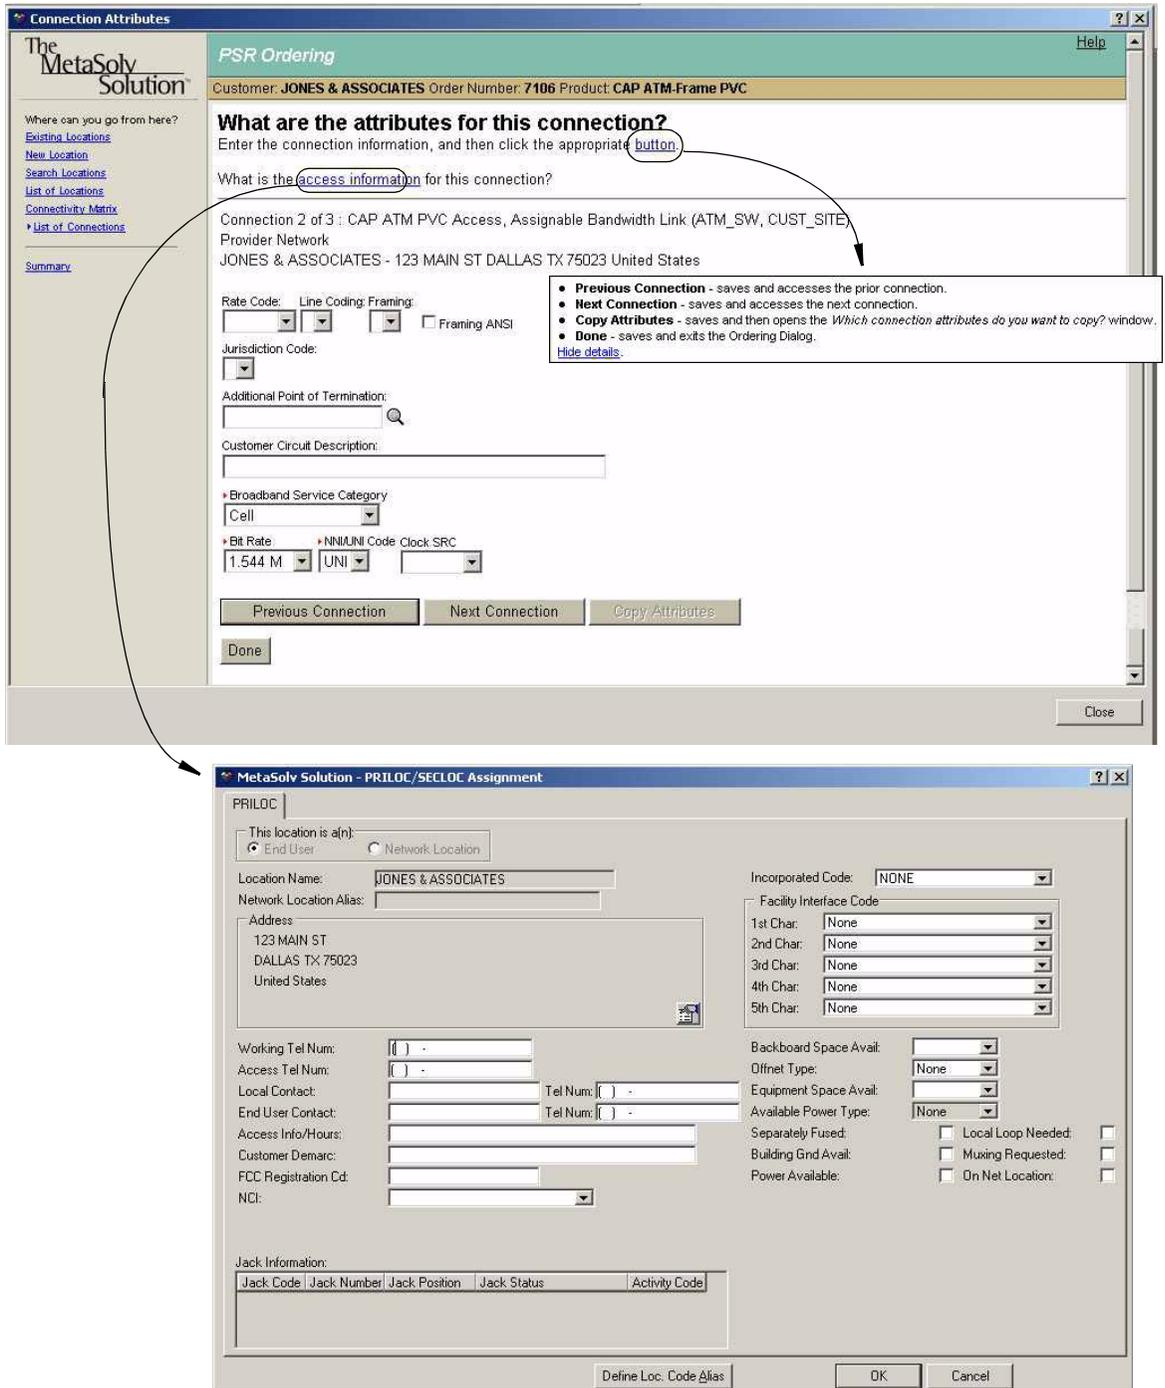

Figure 37: What are the attributes for this [physical] connection?
- Click the link for one of the connections to display the window shown in Figure 33: What are the attributes for this [virtual] connection? on page 60 or in Figure 37, “What are the attributes for this [physical] connection?,” on page 65.
- Click the link for one of the connections to display the window shown in Figure 33, “What are the attributes for this [virtual] connection?,” on page 60 or in Figure 37, “What are the attributes for this [physical] connection?,” on page 65.